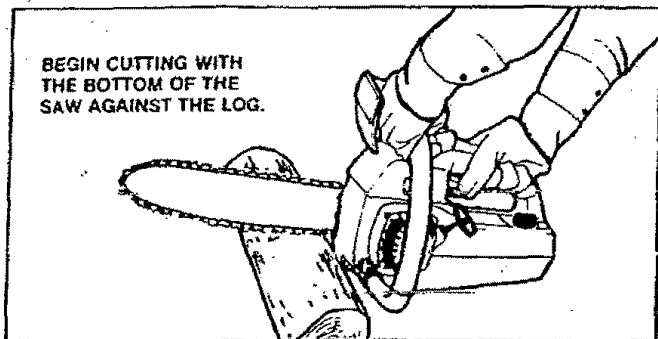

Figure 18
- Begin cutting with the saw frame against the log.** Figure 18.